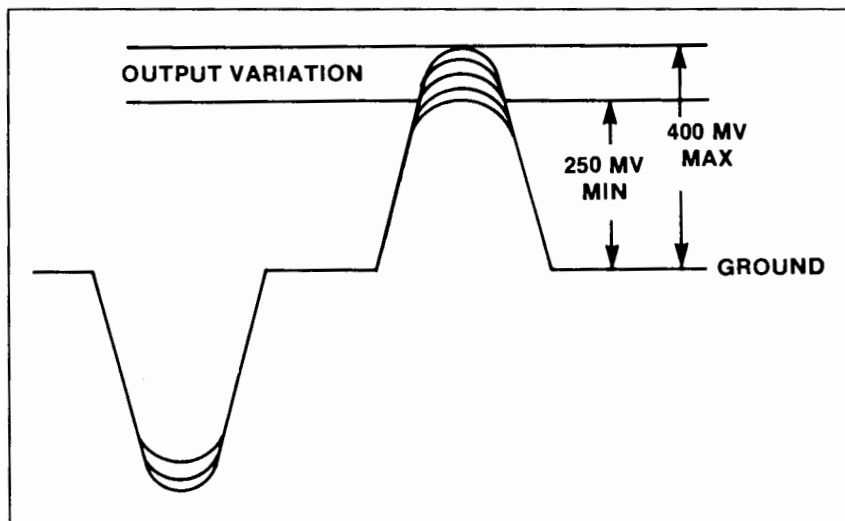

Figure 6-2. Index Pick-up Adjustment
9. With chain motor running, attach scope to pin B15 of the Traffic Control PCA for adjustment of index pick-up (See Figure 6-2 for specifications). TRIGGER NEGATIVE. Use B55 and/or B56 for GND.